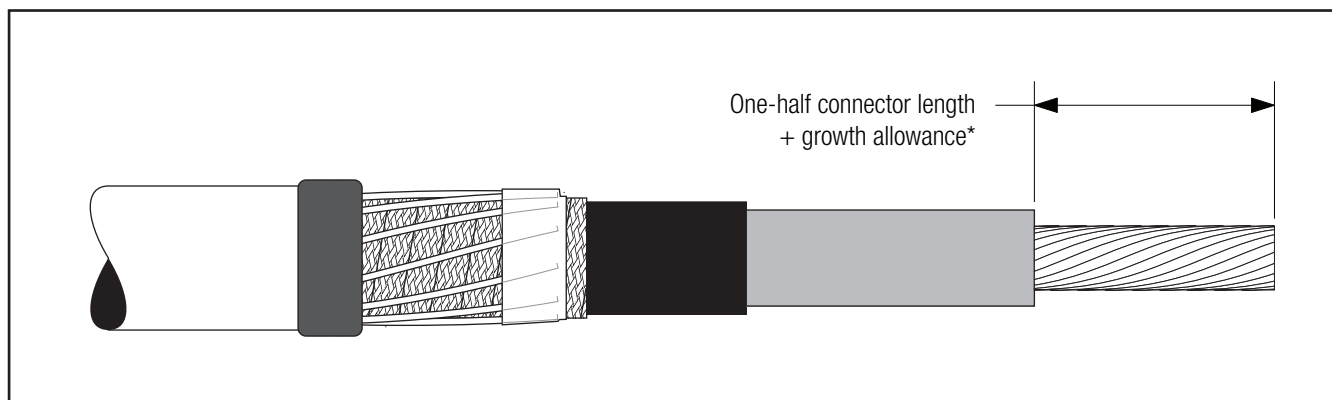

Figure 9
- 3.3 **If using a crimp type connector**, remove cable insulation for 1/2 connector length plus an allowance* for increases in connector length due to crimping. Insulation removal length shall not exceed 3 1/4" (83 mm) from conductor end. **Do not install connector now** (Figure 9).